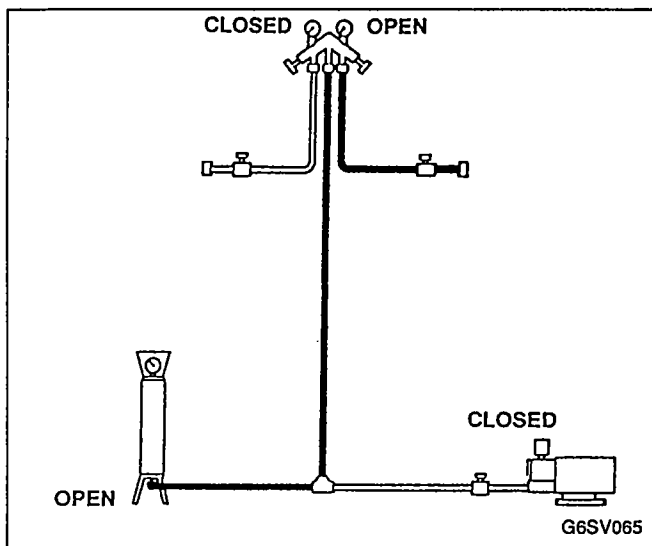

FIGURE 65. RECHARGING OF SELF-CONTAINED SYSTEMS
1. Ensure toggle switch is in OFF position. Refer to Figure 65 and recharge system.